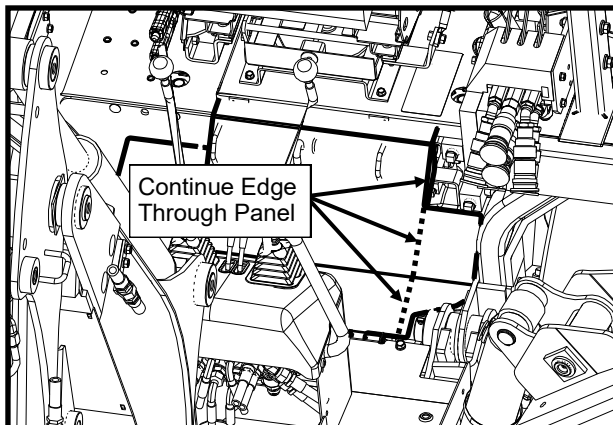

Figure 1.5: Trim Rear Floor Panel
- 1.5 Remove the rear backhoe floor panel from the hinge pins and cut in line with the edge as shown in Figure 1.5. Use a paint marker to cover the cut edge and re-install.